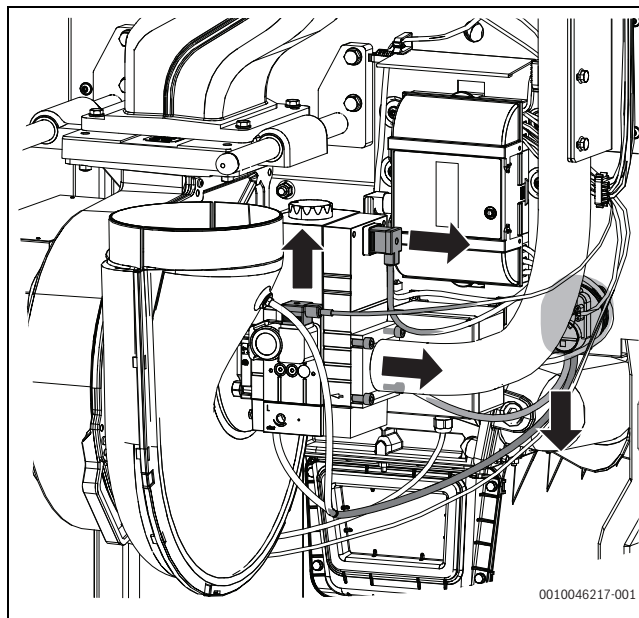

Fig. 55 Undo the plug, hoses and gas supply pipe
- ▶ Remove the 4 screws on the flange of the gas pipe (→Fig. 55).
- ▶ Remove the plug screw on the air/gas ratio control valve (→Fig. 55).
- ▶ Remove the hoses on the differential pressure sensor (→Fig. 55).